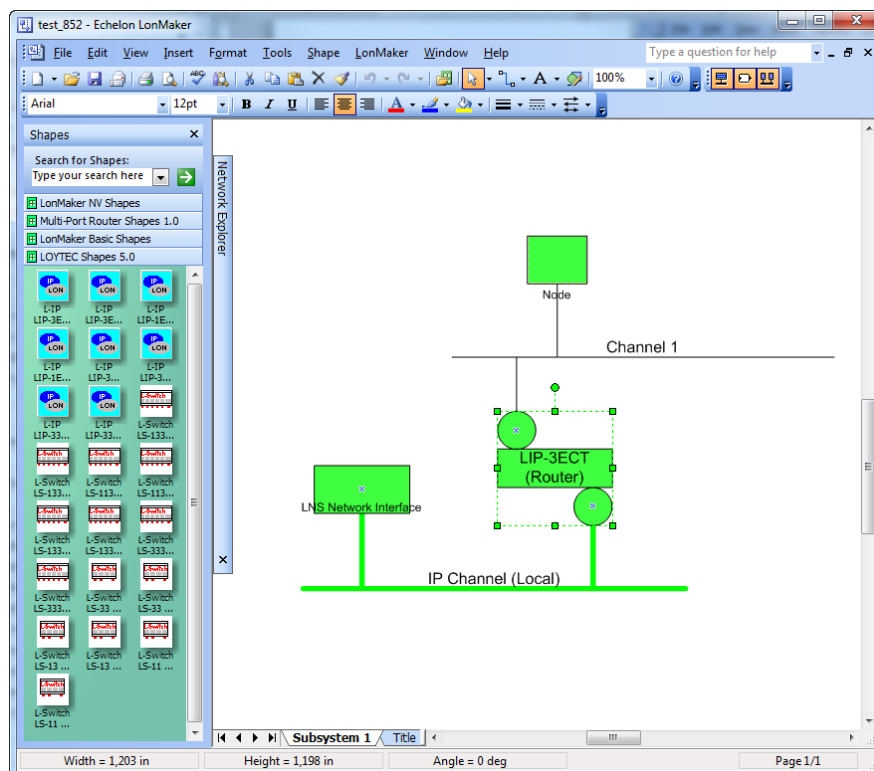

Figure 83: Drag the L-IP (Router) shape onto the drawing area and commission the device.
8. Now drag the L-IP (Router) shape from the “LoytecShapes” stencil onto the drawing area. Choose the existing channel “IP Channel” for the first router port and the existing channel “Channel 1” for the second port. Finally you must commission the new L-IP router. LonMaker can now use the L-IP as a local or remote network interface that connects directly to the Ethernet network as shown in Figure 83.